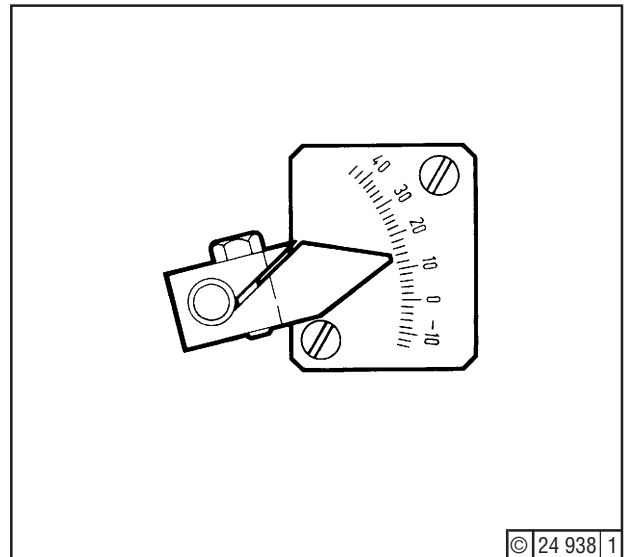

Fig. 18
12. Set stop screw A13 so that load indicator on injection pump (Fig. 18) points to graduation 14.